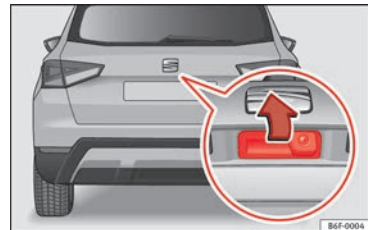

Fig. 6 Rear lid: handle
The rear lid opening system operates electrically*. It is activated by exerting slight pressure on the handle »» Fig. 6.
- Opening the rear lid: exert slight pressure on the handle » **Fig. 6**. The rear lid opens automatically.